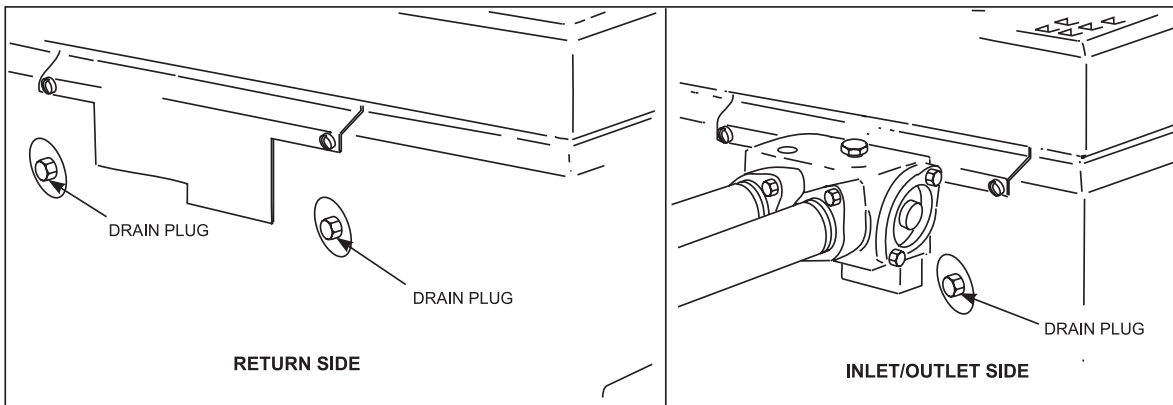

Figure 19. Heater drain locations.
4. Remove the drain plug from the return header (see Figure 19), loosen the drain plug from the inlet/outlet header, and completely drain the heater before the first frost.